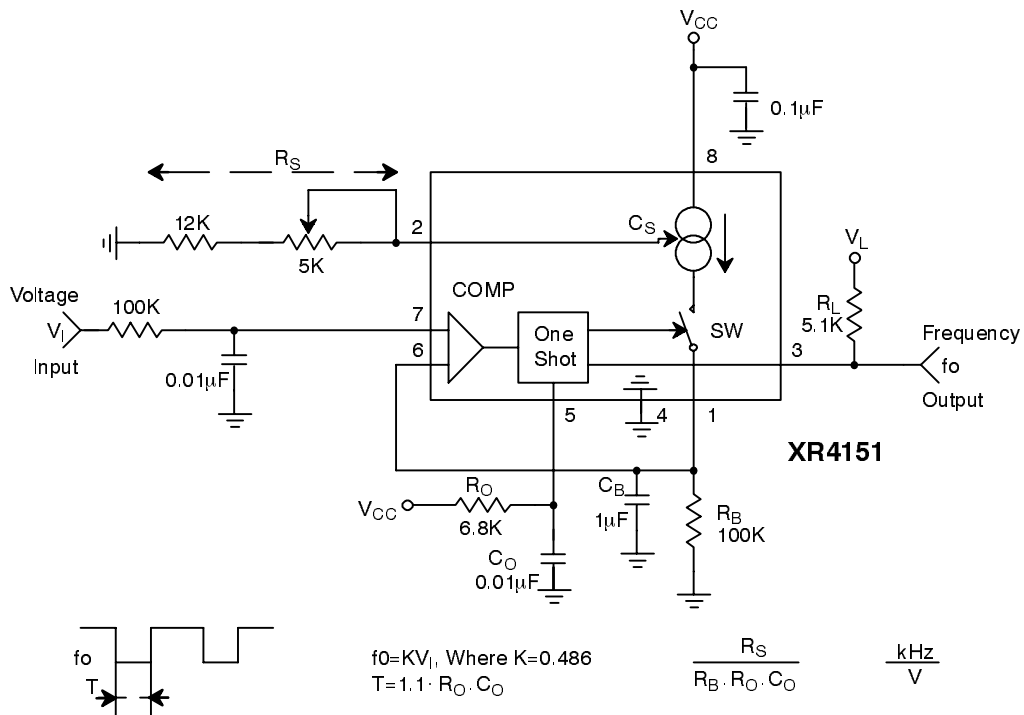
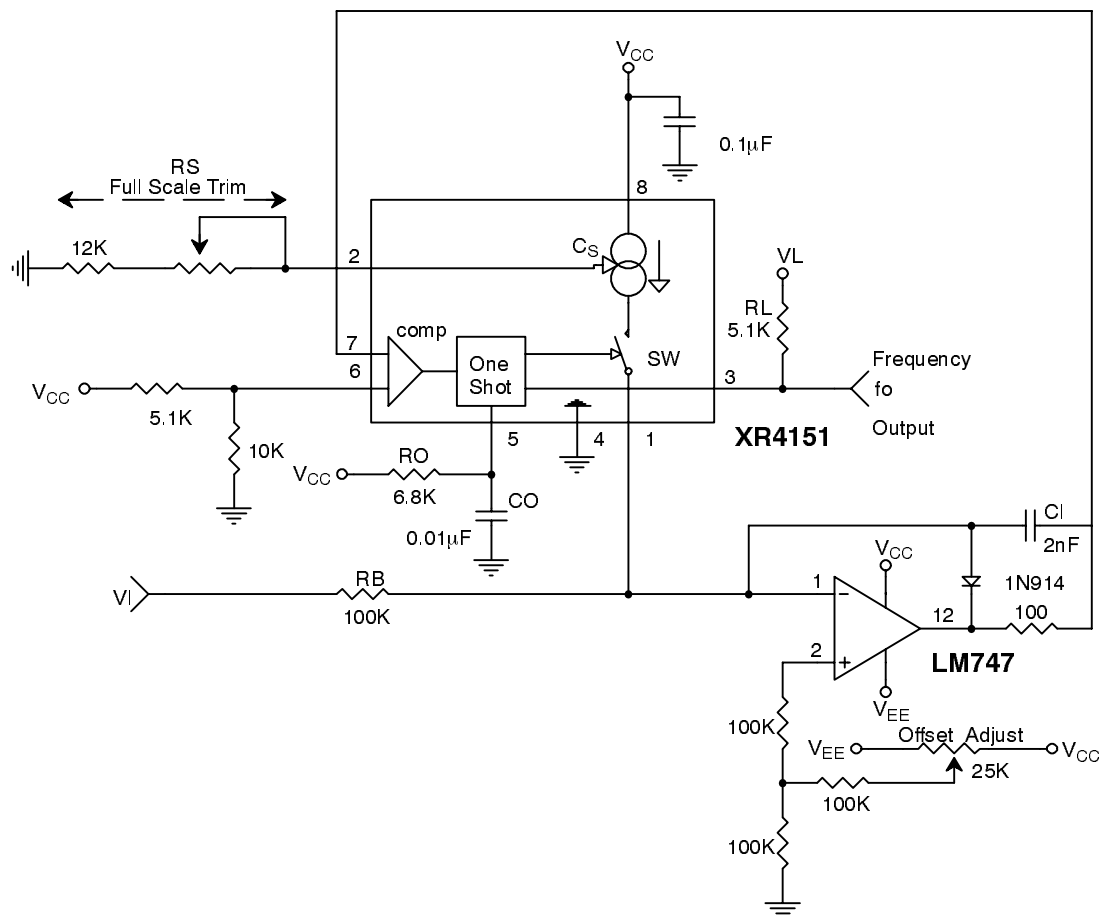

Figure 2. Voltage-to-Frequency Converter
Figure 3. Precision Voltage to Frequency Converter
In this application, the XR4151 functions as a stand alone voltage-to-frequency converter operating on a single positive power supply. Refer to the functional block diagram and *Figure 2*, the circuit connection for single supply voltage-to-frequency conversion. The XR-4151 contains a voltage comparator, a one-shot, and
Figure 2 shows the simplest type of VFC that can be made with the XR4151. The input voltage range is from 0 to +10V, and the output frequency is from 0 to 10kHz. The full scale frequency can be tuned by adjusting  $R_S$ , the output current set resistor. This circuit has the advantage of being simple and low in cost, but it suffers from inaccuracy due to a number of error sources. Linearity error is typically 1%. A frequency offset will also be
introduced by the input comparator offset voltage. Also, response time for this circuit is limited by the passive integration network  $R_B C_B$ . For the component values shown in Figure 2, response time for a step change input from 0 to +10V will be 135msec. For applications which require fast response time and high accuracy, use the circuit of Figure 3.
In this application (*Figure 3*) the XR4151 is used with an operational amplifier integrator to provide typical linearity of 0.05% over the range of 0 to -10V. Offset is adjustable to zero. Unlike many VFC designs which lose linearity below 10mV, this circuit retains linearity over the full range of input voltage, all the way to 0V.
The operational amplifier integrator improves linearity of this circuit over that of *Figure 2* by holding the output of the source, Pin 1, at a constant 0V. Therefore, the linearity
4. Avoid stray coupling between pins 5 and 7; it could cause false triggering. For the circuit of *Figure 2*, bypass pin 7 to ground with at least  $0.01\mu\text{F}$ . This is necessary for operation above 10kHz.
1. Set  $R_S = 14k\Omega$  or use a 12K resistor and 5K pot as shown in the figures. (The only exception to this is *Figure 3*).
3. a) For the circuit of *Figure 2* make  $C_B = 10^{-2} [1/f_0]$  Farads.
4. a) For the circuit of *Figure 3* keep the values of  $R_B$  as shown and use an input attenuator to give the desired full scale input voltage.
- b) For the precision mode circuit of *Figure 3*, set  $R_B = V_{IO}/100\mu A$  where  $V_{IO}$  is the full scale input voltage.